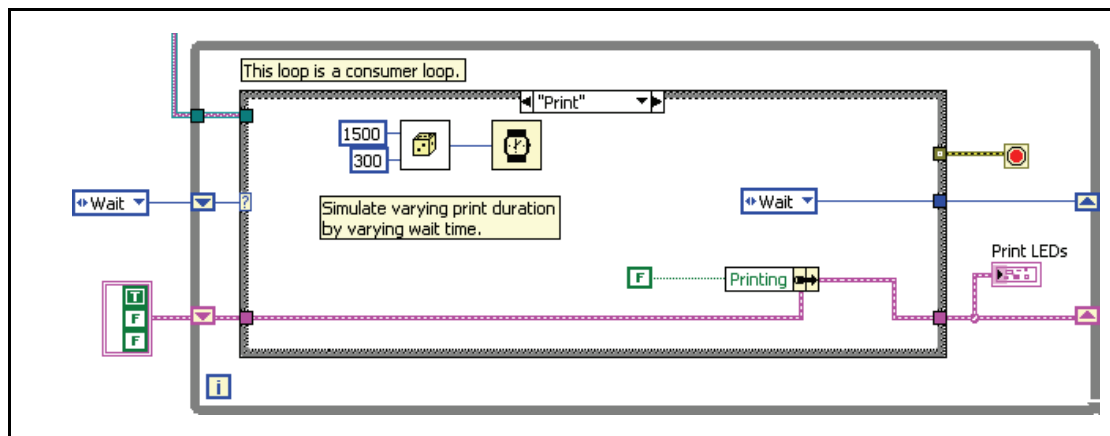

Figure 8. Consumer Loop—Print Case
5. Refer to Figure 8 to create the Print state.